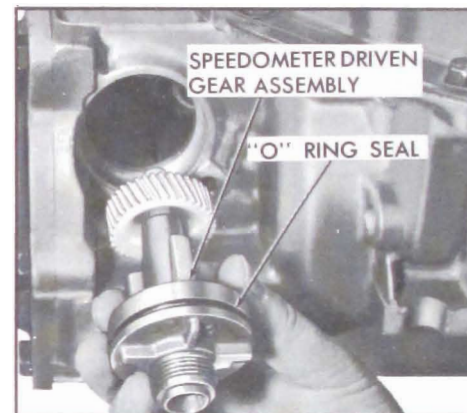

Figure 5-752
1. Install the speedometer driven gear assembly. See Figure 5-752.